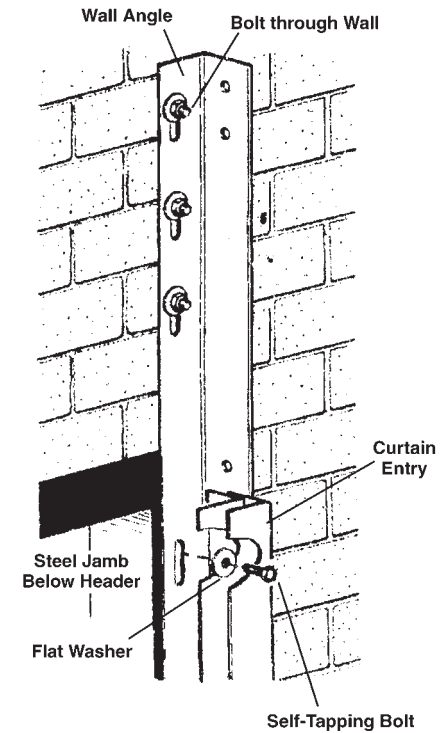

Fig 7
**NOTE:** When steel jamb does not extend above the opening, use three thru-bolts to fasten each wall angle above the opening. See Figure 7.